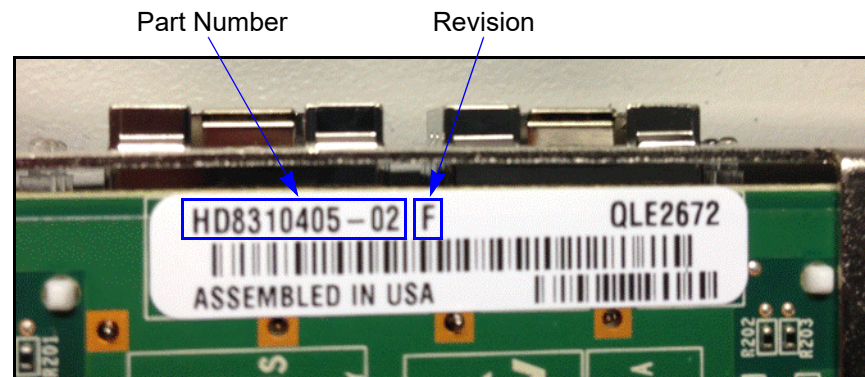

Figure 3-1. 2600 Series Adapter Part Number Location—Physical
- Locate the physical label on the adapter that has the part number (see Figure 3-1), and then check to see if it is listed in Table 3-1.
- In QConvergeConsole CLI **Adapter VPD Information** menu, select a 2600 Series port in the **Adapter Port**. Navigate to **Port Vital Product Data (VPD)** (see Figure 3-1), view the **Engineering Date Code** for the part number, and then check to see if it is listed in Table 3-1.
Some 2600 Series Adapters that support personality change require an *enablement kit* (available on the QLogic Web site) for the change to work. For the adapters listed in Table 3-1 on page 22, revisions A, B, C, D, E, F, and G require the enablement kit; revisions H and later do not. The adapter revision is printed on a label on the adapter (see Figure 3-1 on page 22).